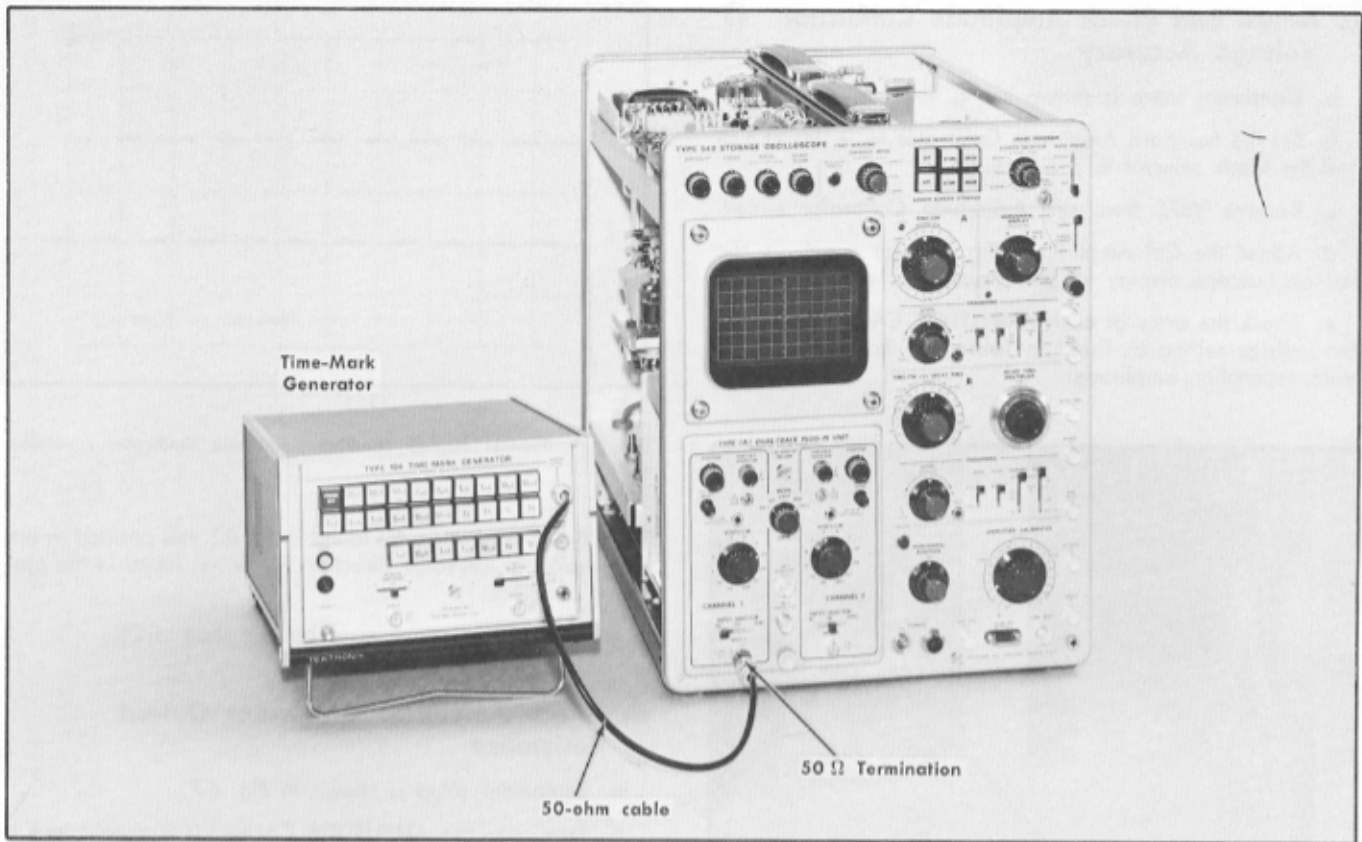

Fig. 6-10. Equipment setup for step 10.
- a. Equipment setup is shown in Fig. 6-10.